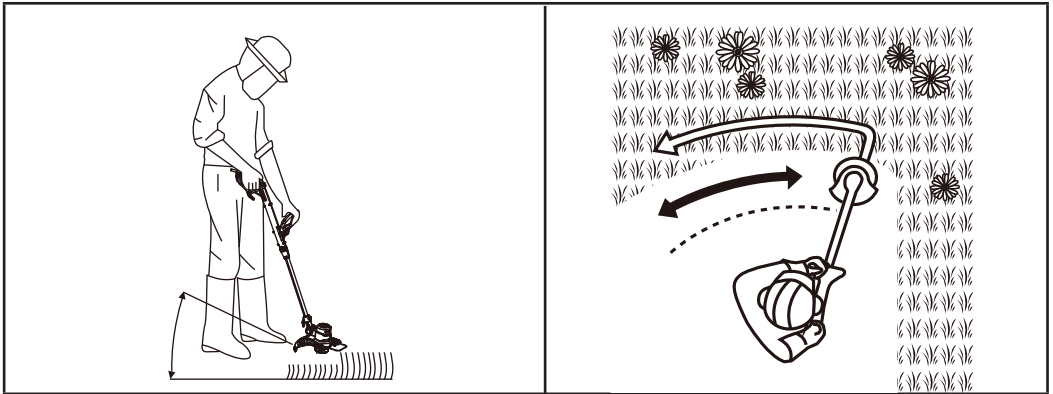

Fig. 7
- Ensure your stance is stable and hold the machine tightly with both hands at the upper handle (1) and the auxiliary handle (4).
- Hold the cutting head (17) just above the ground at an angle of approximately 30° (Fig. 7).
- Move the machine with a slow regular arc from left to right before moving it back to the starting position before trimming the next area (Fig. 7).